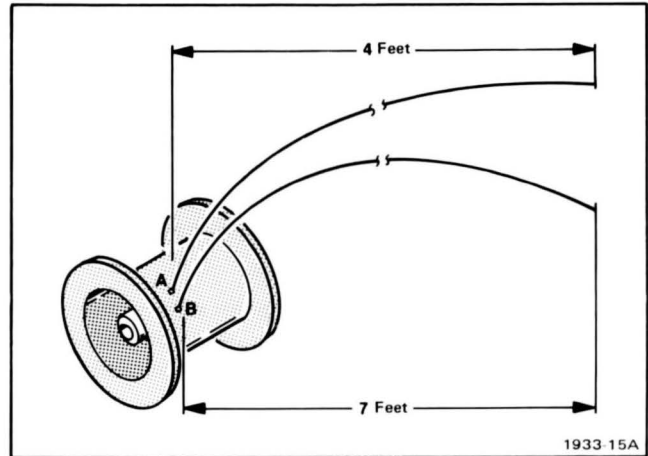

Figure 3-3. X-Axis Pulley Cable Threading.
3. **Thread** about four feet of the .034-inch diameter cable down through the front (B) hole and up through the rear (A) hole (see Figure 3-3). If the cable has a loop on one end, arrange it so that the long end has the loop.